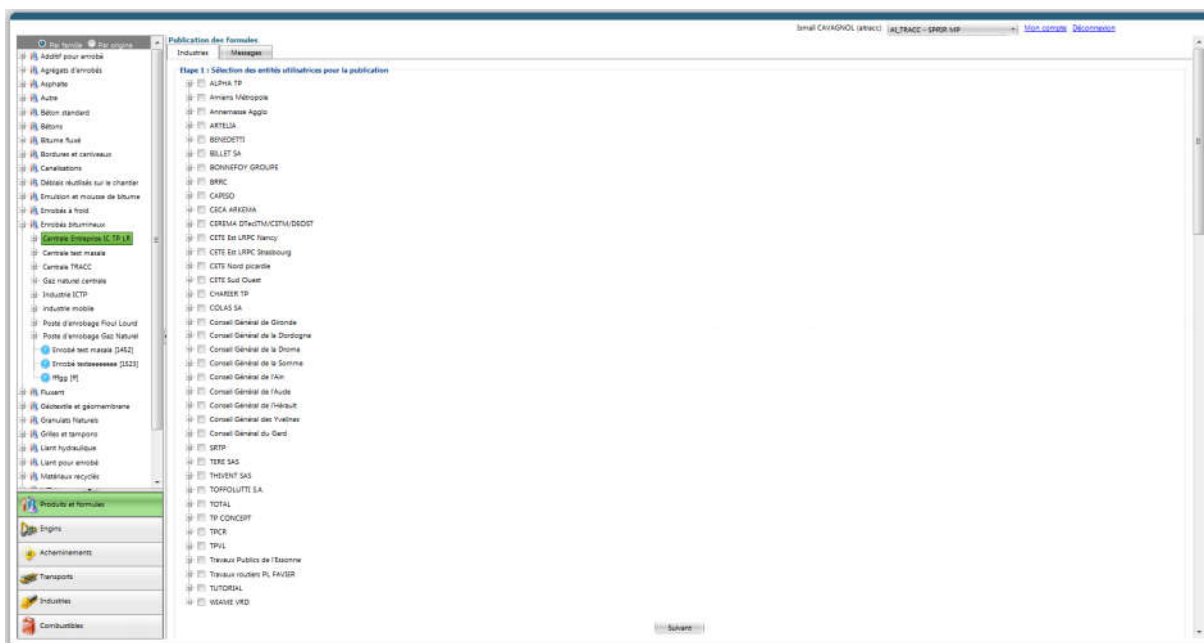

Figure 33 – Selection of user entities for publication
- 5- Choose the EU of the member to which to publish the formulas (Figure 33)